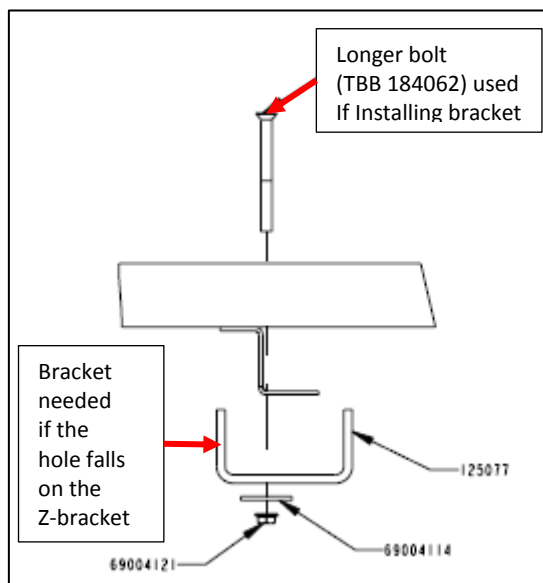

Figure 2: Bracket and Bolt
7. If the Z-section interferes with tightening the washer and nut against the floor, install a bracket (TBB125077) with a longer bolt (TBB 184062) over the Z-section as shown in **Figure 2**. If there is no interference, go to step 8.